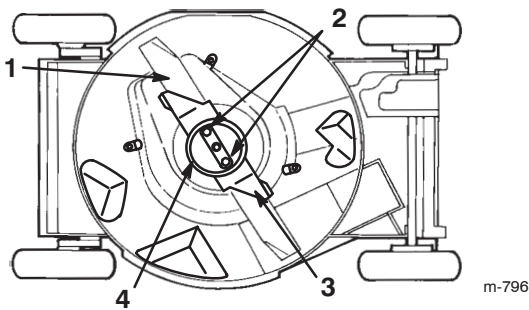

Figure 23
- Tip the lawn mower onto its **right** side (air cleaner up) (Fig. 23).
- Remove the blade nuts, the anti-scalp cup, the accelerator, and the blade (Fig. 23).
5. Remove 2 blade nuts, the anti-scalp cup, the accelerator, and the blade (Fig. 23).